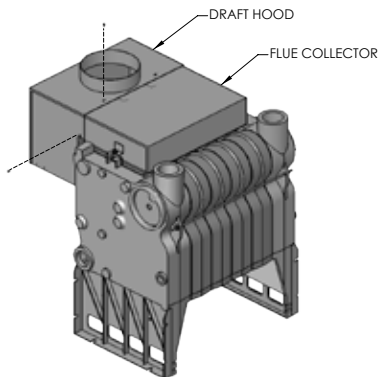

Figure 2.8: Draft Hood Attachment
7. Attach the Draft Hood to the Flue Collector using #10 x 1/2" sheet metal screws provided. Refer to Figure 2.8.